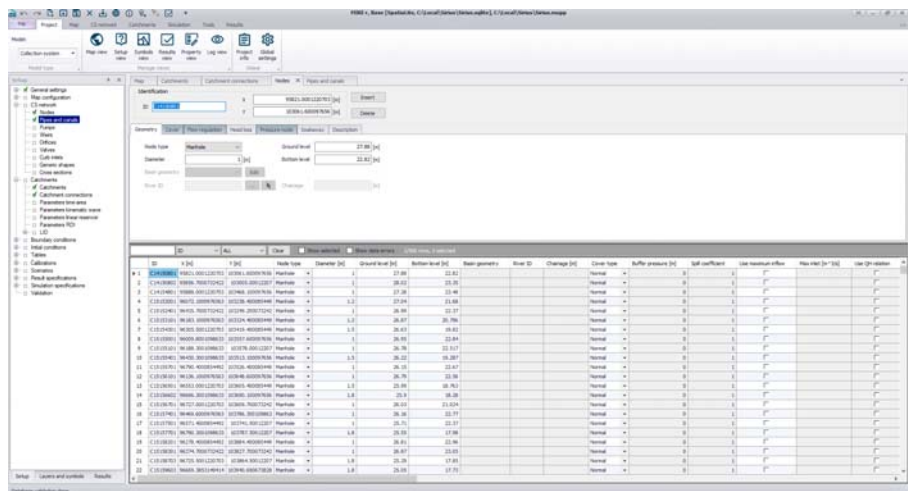

Figure 2.5 MIKE+ user interface with all editors "docked"
- "Docked" editors are displayed one at a time, or side-by-side. Any editor can be brought to the front by clicking on its tab. This is shown in Figure 2.5 below.
Figure 2.5 shows the MIKE+ user interface with all editors "docked". In this case only the active editor is visible.